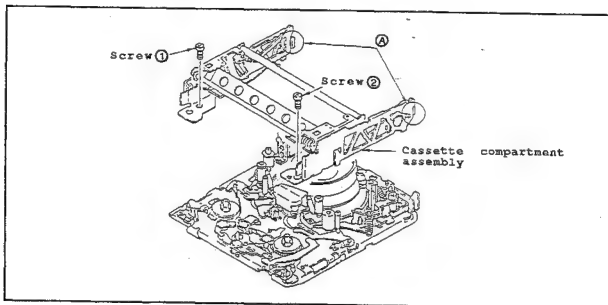

Fig.II-1
1-2 Removal of cassette Compartment Assembly (Fig.II-1)
- (1) Remove setscrews ① and ②.
- (2) To detach cassette compartment assembly, slide the assembly a little toward you. (A parts in Fig.II-1 detached)